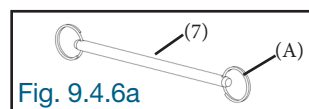
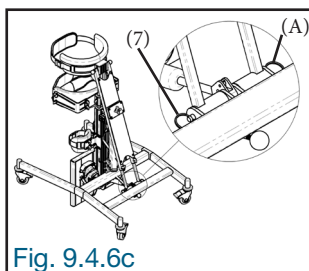
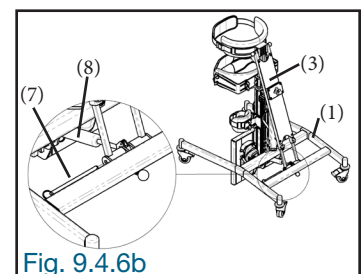

Fig. 9.4.6a
Fig. 9.4.6c
Fig. 9.4.6b
9.4.6 Remove the safety ring (A) from one end of the double-lock pin (7) (Fig. 9.4.6a). Insert the double-lock pin (7) to attach the stabilizer (3) and the cylinder (8) together to the base (1) (Fig. 9.4.6b). Reinsert the safety ring (A) removed earlier at the end of the double-lock pin (7) (Fig. 9.4.6c).